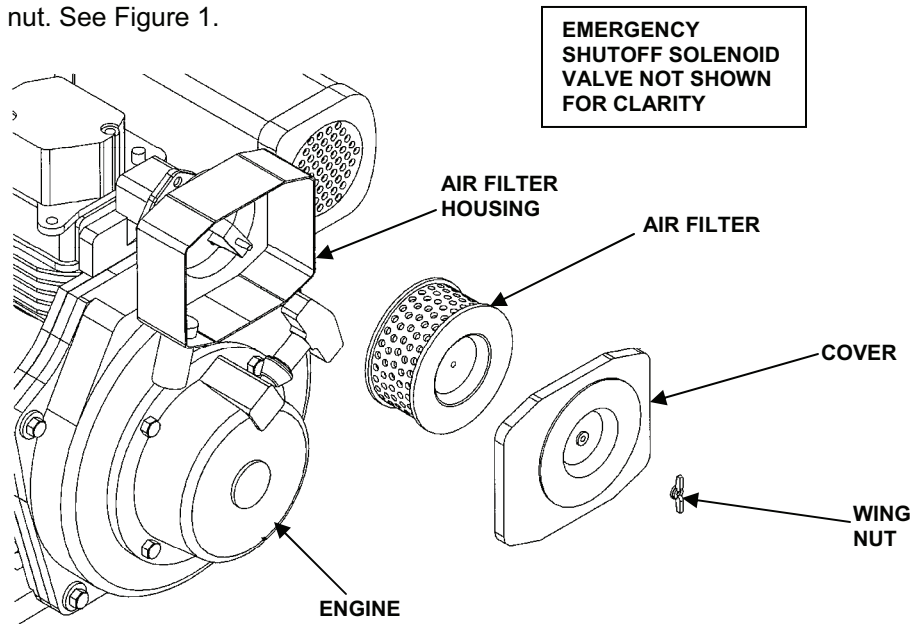

Figure 1. Diesel Engine Air Filter.
1. Remove the wing nut. See Figure 1.